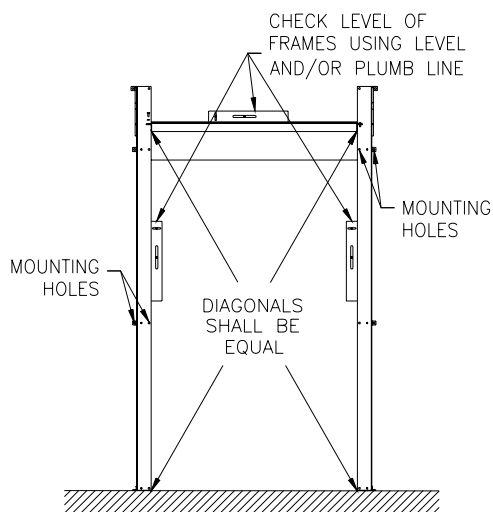

FIG. 6A
a. **Check Uprights and Top Stabilizing Tube** for plumb, level, and square (Figure 6a).